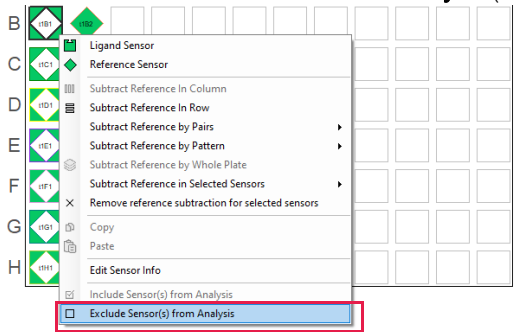

Figure 4-28: Excluding Biosensors in Reference Sensor Tab.
- In the **Reference Sensor** tab - Select wells in the biosensor tray you want to exclude. Right-click the tray and select **Exclude Sensors From Analysis** (Figure 4-28).